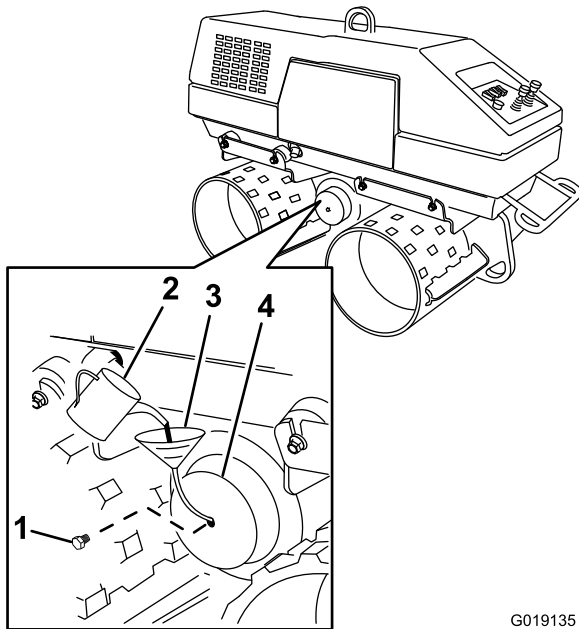

Figure 78
1. Locate the eccentric end cap at the left-lower exterior of the machine (Figure 78).
2. Remove the fill plug from the eccentric end cap (Figure 78).
3. Pour 235 ml (8 ounce) of the specified oil into the eccentric oil reservoir through the fill hole as shown in Figure 78.
5. Install the fill plug into the fill hole of the end cap (Figure 78).